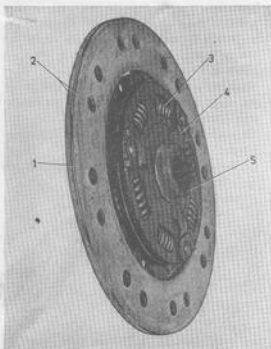

Fig. 4-7. Clutch disc
3. Rivet on the new facings (preferably in a rivet press). NOTE: The rivets should be inserted from the side on which the facing lies and riveted up from the opposite direction against the disc. Use every other hole in the facing. After riveting, the facings should be spaced from each other as determined by the indentations on the clutch disc. See Fig. 4-7. This is most important in order to achieve a smooth engagement when starting and driving.